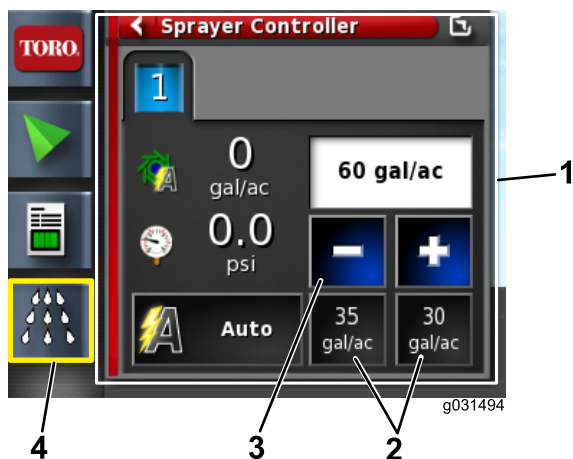

Figure 7
3. Open the sprayer-controller icon (Figure 7).
5. If the rate is not correct, change the rate with the preset rates, incrementally, or select the current rate box to manually enter an application rate.(Figure 7).